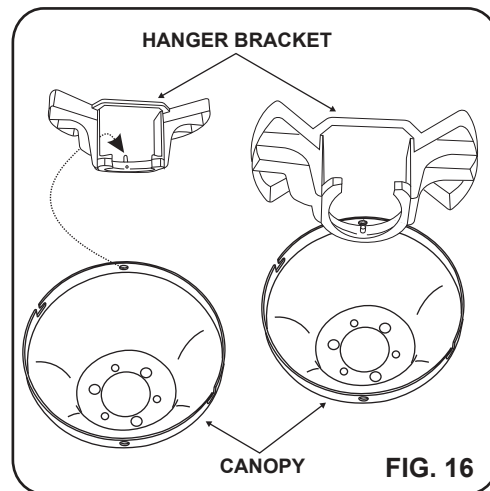

FIG. 16
Step 5. To prepare the fan for wiring, hang fan onto hanging bracket by sliding the canopy over the hanging bracket tab. (Use one of the non-slotted holes on the rim of the canopy) (Fig. 16)